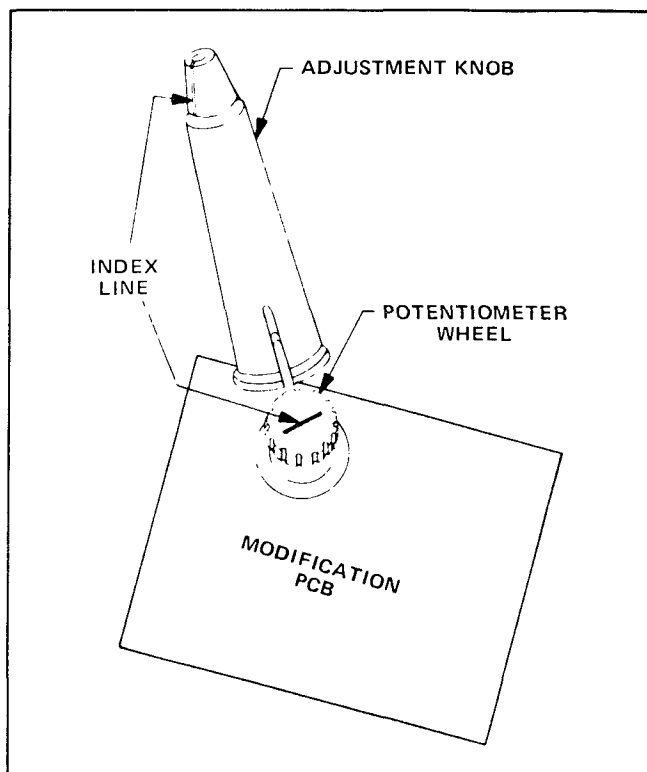

Figure 6 Adjustment Knob Installation
- 2 Align the index line on the adjustment knob with the index line on the potentiometer wheel so that the adjustment knob index points down and left (approximately 7 o'clock position) See Figure 6